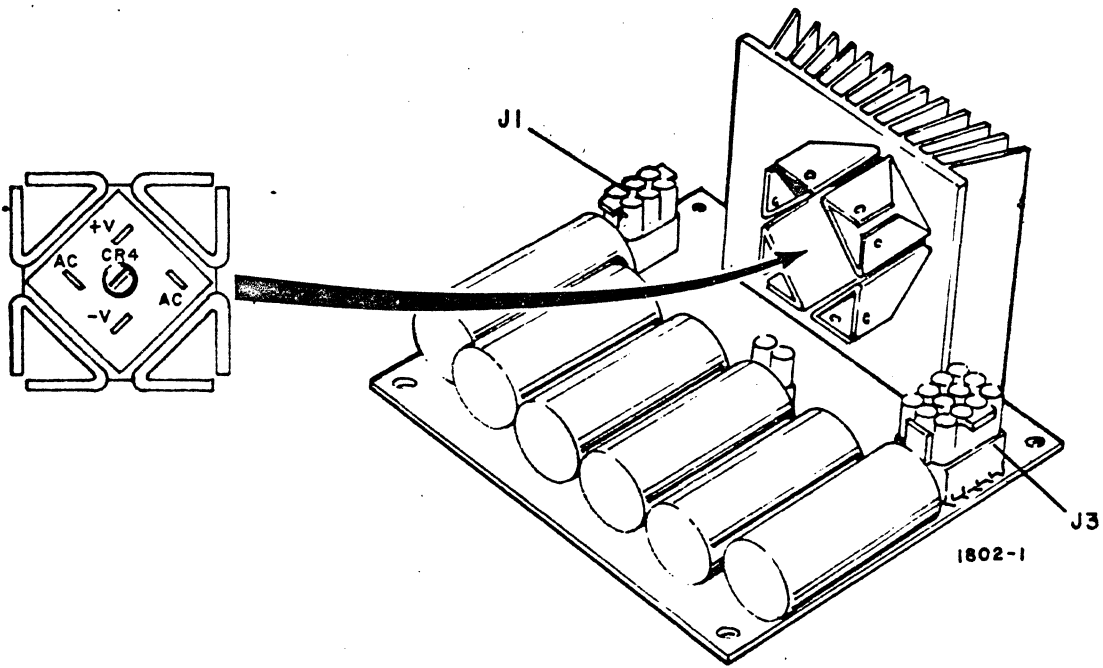

Figure CRT26. Bulk Power Supply Board
- 5) Disconnect J1 and J3 connectors (figure CRT26) from bulk power supply board.
- 10) Plug J1 and J3 connectors into sockets (figure CRT26).
- 4) Disconnect connector at J1 of bulk power supply (figure CRT26).